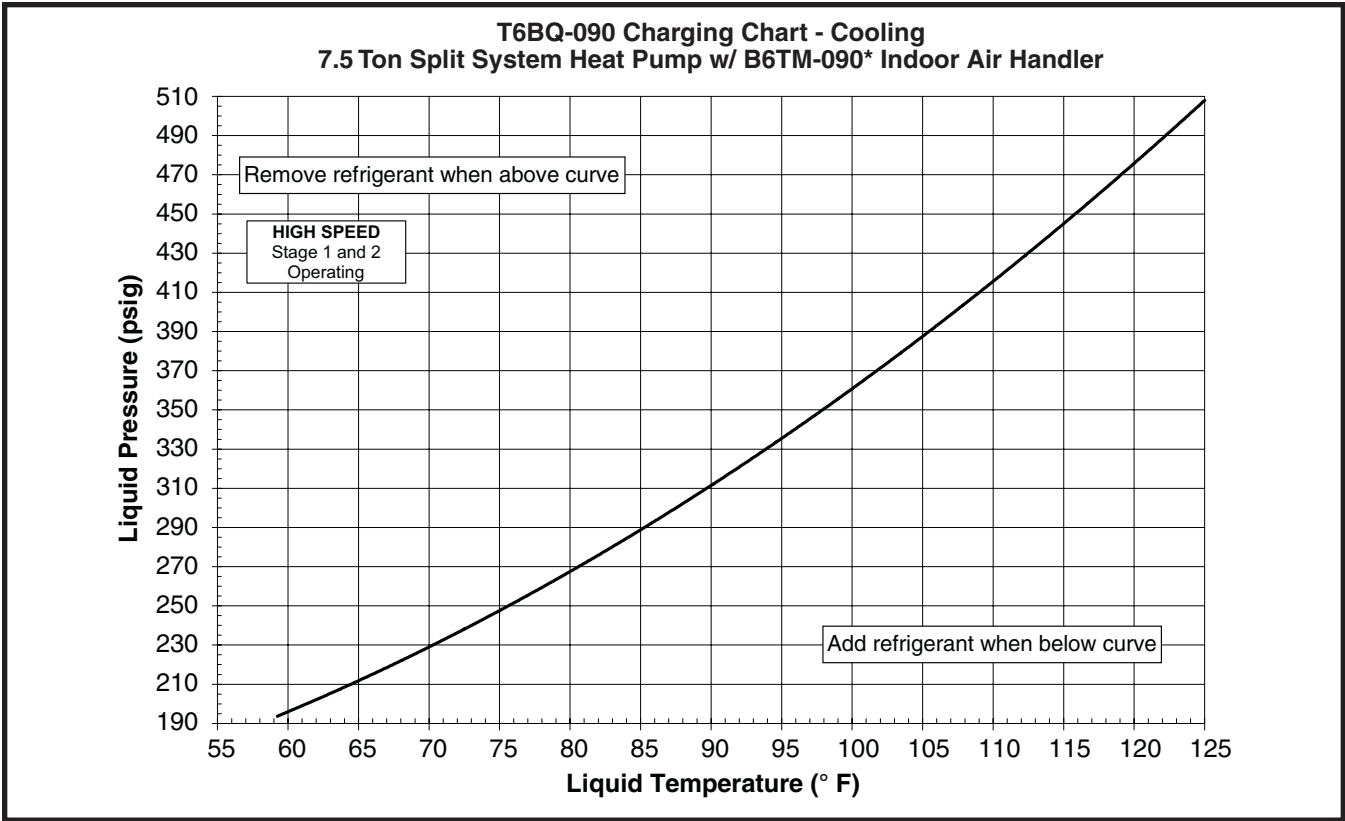
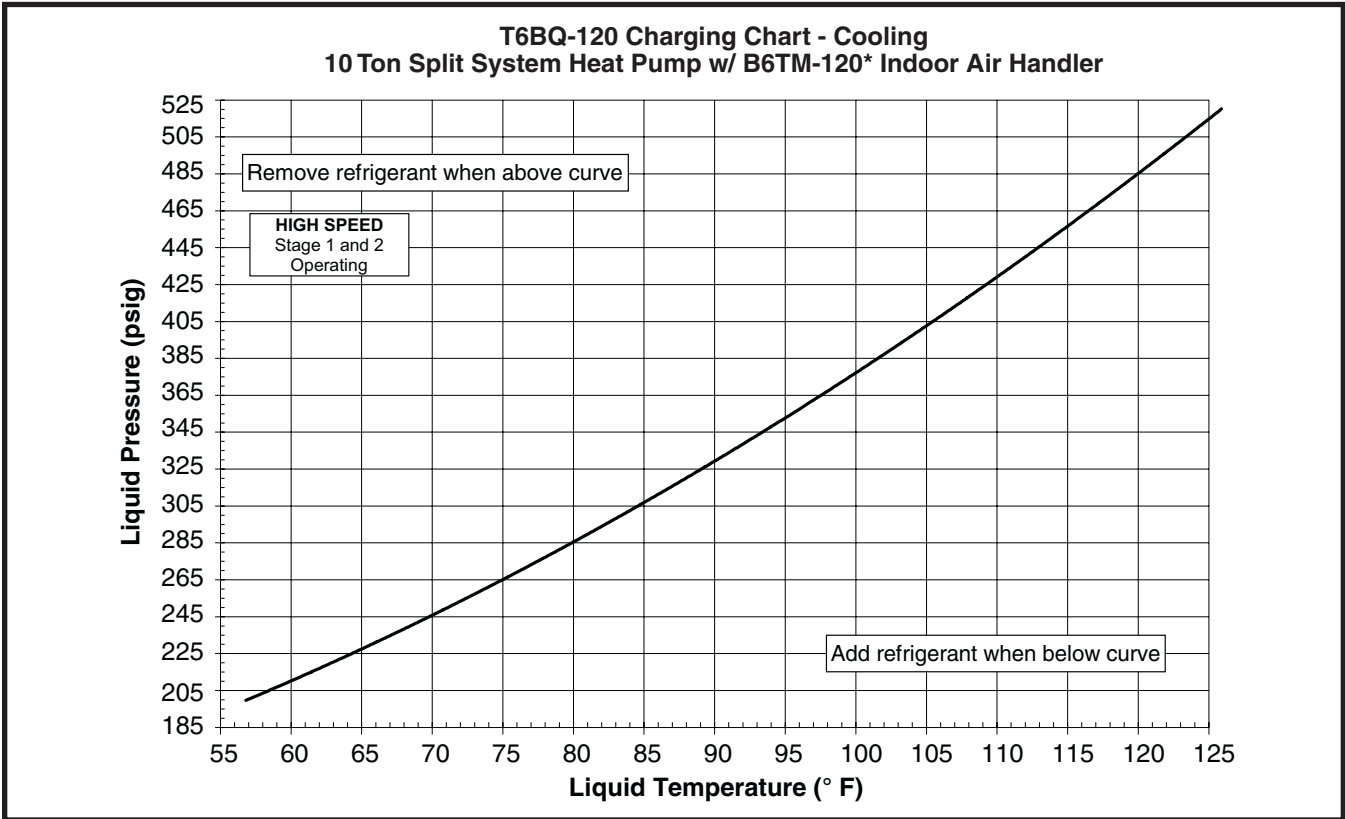

Figure 3. Charging Chart for 7.5 Ton Units
Figure 4. Charging Chart for 10 Ton Units
- Cooling mode charging charts are applicable only to matched equipment and listed airflows for the indoor coil. T6BQ outdoor units with indoor coils not listed are not recommended and deviations from rated airflows or non-listed combinations may require modification to the expansion device and refrigerant charging procedures for proper and efficient system operation. Refer to Figure 3 for 7.5 ton units or Figure 4 (page 11) for 10 ton units.
3. Determine the required liquid refrigerant pressure from the appropriate charging chart. See Figure 3 or Figure 4.
- Charging charts are valid for a variety of indoor, return air conditions and are most influenced by the outdoor ambient temperature, outdoor fan operation and the unit operating voltage. Before using these charts, make sure the unit is in a stable operating mode. As shown in Figure 3 or Figure 4 (page 11), the ideal system sub-cooling can vary over the range of operation. Reference the charts to determine the ideal amount of sub-cooling for a given liquid pressure. Units charged to other values will not perform at the rated unit efficiency (EER) or rated Coefficient of Performance (COP) in heating mode.